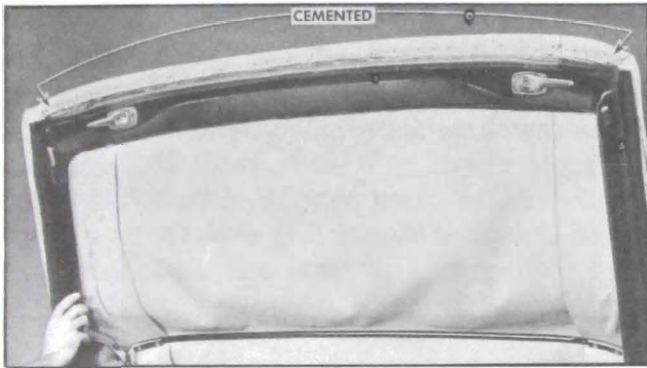

Figure 13-98—Trim Attachment at Front Roof Rail
3. At the front of body, raise front roof rail, remove retainers and front weatherstrip and detach top material from front roof rail. See Figure 13-98.
22. Then, unlock roof rail and apply trim cement to lower side of rail and to top material which will contact this portion of rail. See Figure 13-98.
24. Next unlock the top and tack the material to rail. See Figure 13-98.